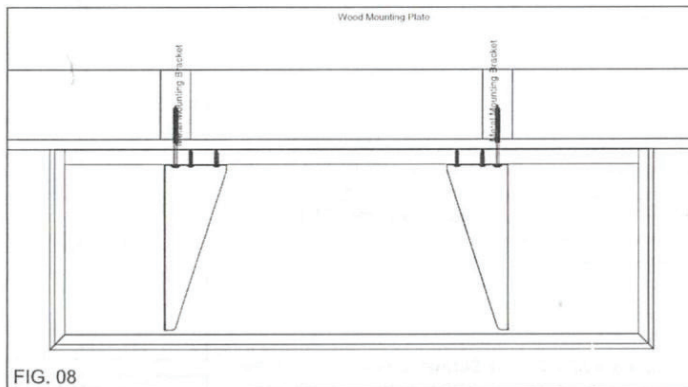

FIG. 08
Step 8: When you are satisfied that the **Floating Shelf** is located correctly, screw or pin the **Floating Shelf** to the **Wood Mounting Plate** as shown. Drill two 1/8 inch pilot holes in the **Floating Shelf** at the locations shown in FIG. 08 when using the two **#6 x 1 inch Flat Head Screws** provided.